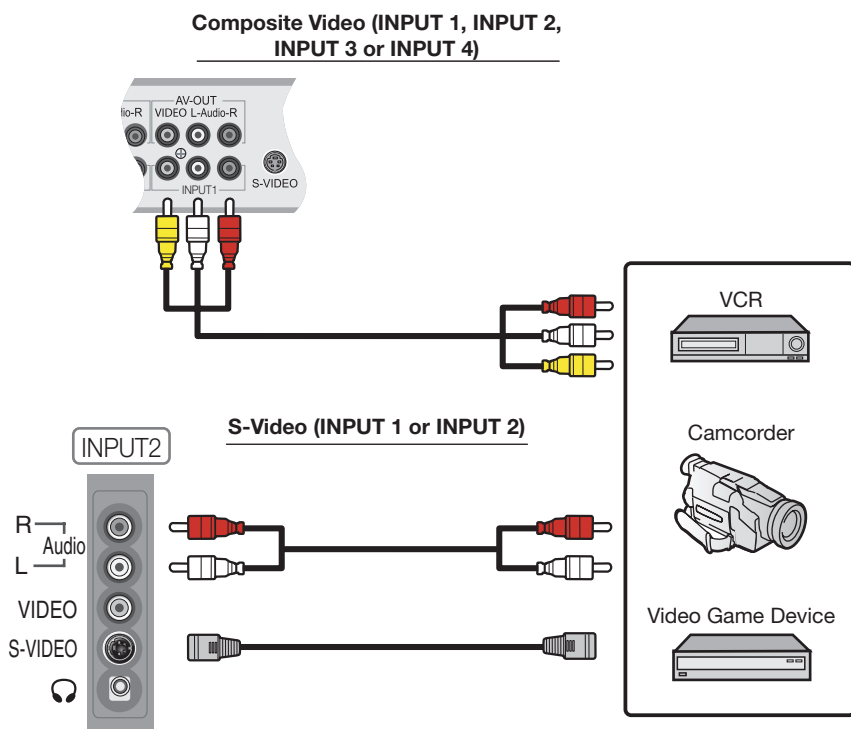

Figure 3-5. Composite and S-Video Connections
Composite/S-Video Connections: The Crystal Series LCD has two (2) S-Video and four (4) composite video inputs for connecting a VCR, camcorder, laser disc player or DVD player; see Figure 3-5.